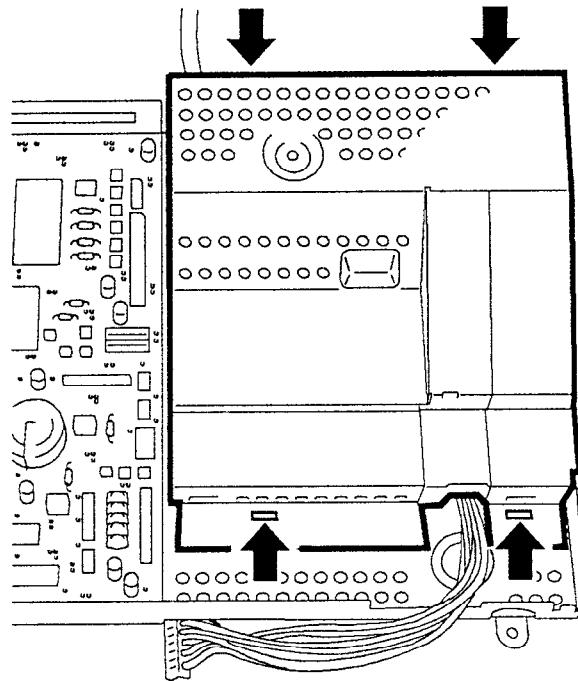

Fig. 7-20
2) Remove screen **S** releasing it in the points indicated by the arrows (Fig. 7-20):